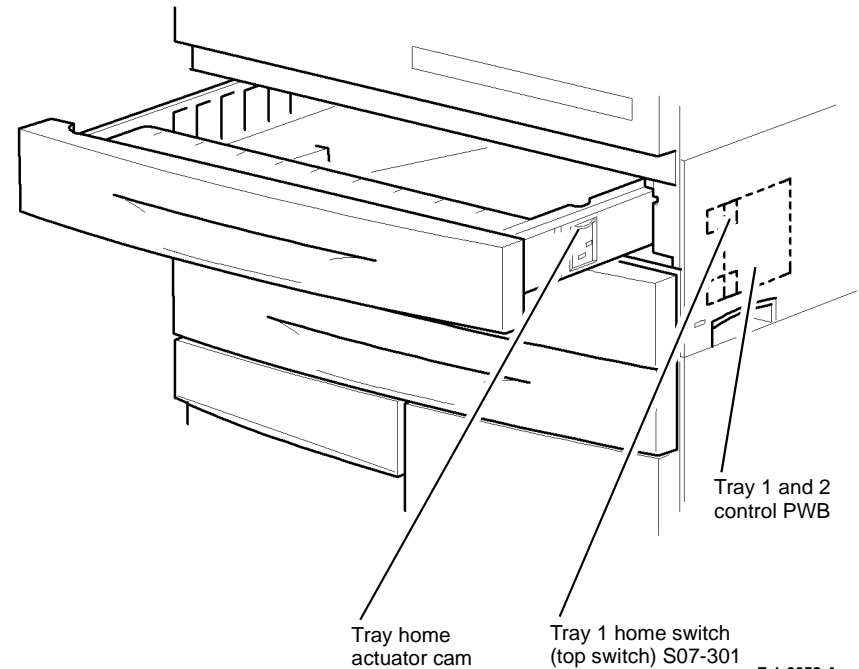

Figure 1 Component location
- Check the actuator cam on the paper tray, Figure 1.